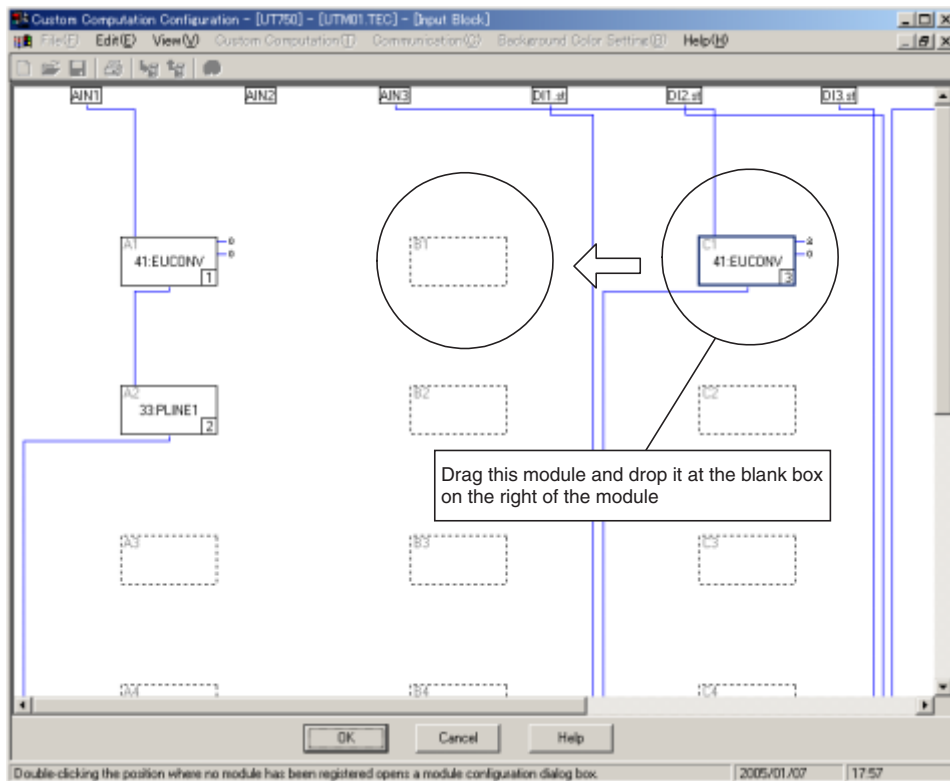

Figure 6.1.1 Computation Module before Move
- (1) In the [Input Block] or [Output Block] dialog box, click the computation module you want to move.
- (2) Use a drag-and-drop operation to move the module to its destination (Figures 6.1.1 and 6.1.2).